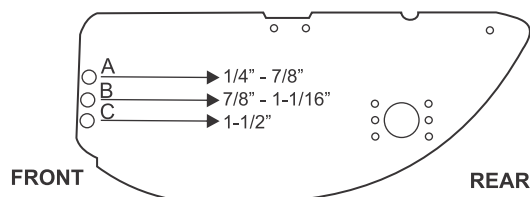
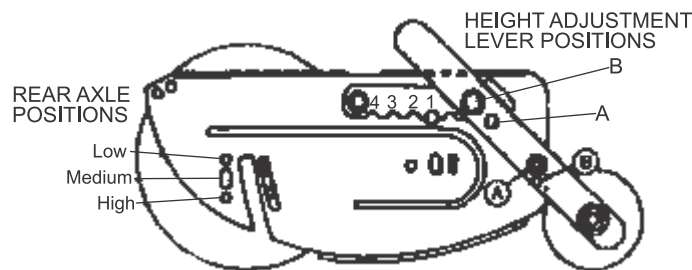

FIGURE 9: Use the front wheel assembly cutting height adjustment holes and height adjustment lever to set the cutting height of the mower.
FIGURE 10: Rear axle positions; height adjustment lever positions
Three holes in the mower side panels (see Figure 9) allow the position of the front wheel assembly bar to be changed to obtain the desired cutting height range.
Once the desired cutting range is set, the cutting height adjustment lever (see Figure 10) is placed in one of four preset positions (notch 1 through notch 4) to select the desired cutting height (see Table 1).
NOTE: When changing the position of the front wheel assembly, the "pivot point" locations of the cutting height adjustment lever must also be changed. When using adjustment hole "A" of "B" hole in the side panel (see Figure 9) for the front wheel assembly position, the "pivot point" locations for the cutting height adjustment lever (see Figure 10) must also be changed to the "A" of "B" positions, as appropriate. When using adjustment hole "C" in the side panel, the cutting height adjustment lever "pivot point" locations should be placed in position "B".
The mower is shipped with rear axle in the middle (medium) position, and the cutting heights listed in Table 1 are achieved with the axle in this position. The rear axle must be lowered to the high position (see Figure 10) to obtain the 1-1/2" cutting height.
4. Remove eight retainer bolts (12). Loosen eight hanger bolts (13).
5. Move the rear axle outward until the retainer bolt hole aligns with the high hole in the sideplate (see Figure 10).
6. Replace and tighten eight retainer bolts (12). Tighten eight hanger bolts (13).
7. Replace sideplate chain (21) and clutch drive chain (15).